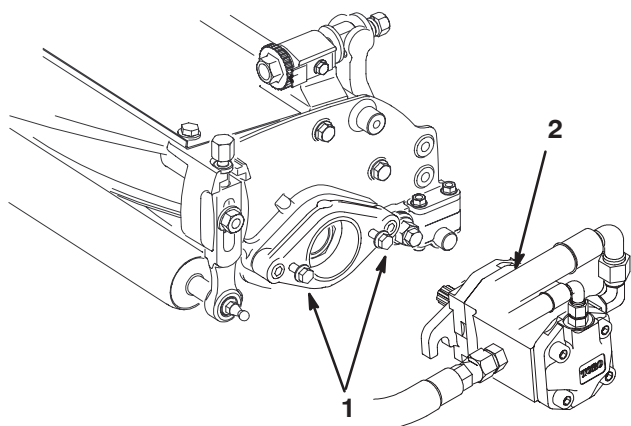

Figure 19
10. Assemble the mounting screws for the reel drive motor to each cutting unit. Leave approximately 1/2 in. (13 mm) of the threads exposed on each mounting screw (Fig. 19).
12. Coat the spline shaft of the motor with clean grease and install the motor by rotating the motor clockwise so the motor flanges clear the studs. Rotate the motor counterclockwise until the flanges are encircling the studs and tighten the mounting capscrews (Fig. 19).